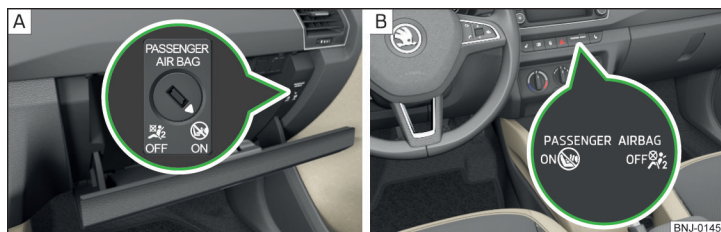

Fig. 12 Key-operated switch for the front passenger airbag / warning light for front seat passenger airbag deactivation
The front passenger airbag can be switched off with the key-operated switch » Fig. 12 on page 19 - [A].
Key switch positions » Fig. 12 - A
- Use the key to turn the slot of the key switch » Fig. 12 A carefully into the position **OFF**.
- Check that the warning light **OFF** in the text **PASSENGER AIRBAG** » Fig. 12 - B lights up after the ignition is switched on.
- Use the key to turn the slot of the key switch » Fig. 12 A carefully into the position **ON**.
- Check that the warning light **ON** in the text **PASSENGER AIRBAG** » Fig. 12 - B lights up after the ignition is switched on.